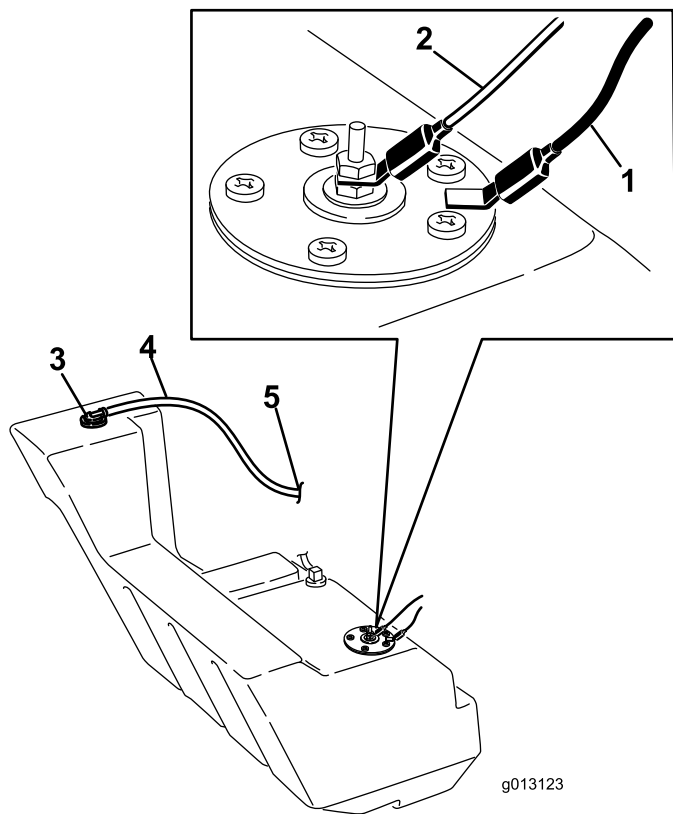

Figure 66
12. Disconnect the 2 wires leading to the right side of the tank (Figure 66).
21. On the right side of the tank, connect the orange wire to the center post and the black wire to the outside post (Figure 66).